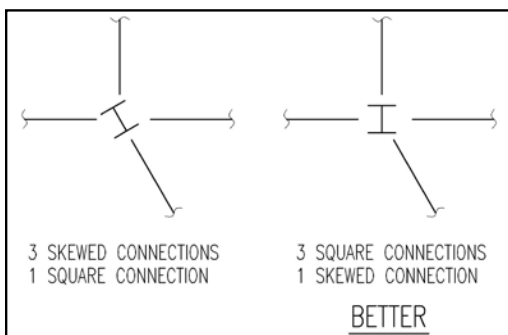

Figure 3: Orient columns to minimize the number of skewed connections.
- 15) **Orient columns to minimize skewed connections to columns.** (Figure 3)